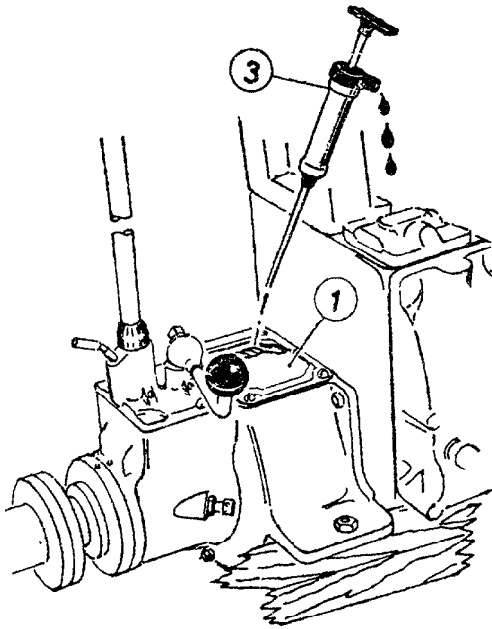

Fig. 16
1. Unscrew clutch housing cover (Fig 16 Item 1) and check oil level in the clutch. Turn the engine over and check that the clutch reaches into the oil. Top up if necessary.